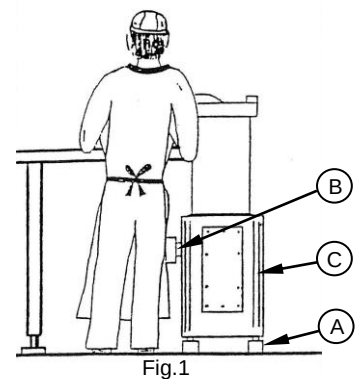

Fig.1
Position the machine on a firm, stable and level surface. If the machine is not standing level, adjust by screwing or unscrewing plastic feet (A). (Observe the working position as illustrated in figures 1 and 2).